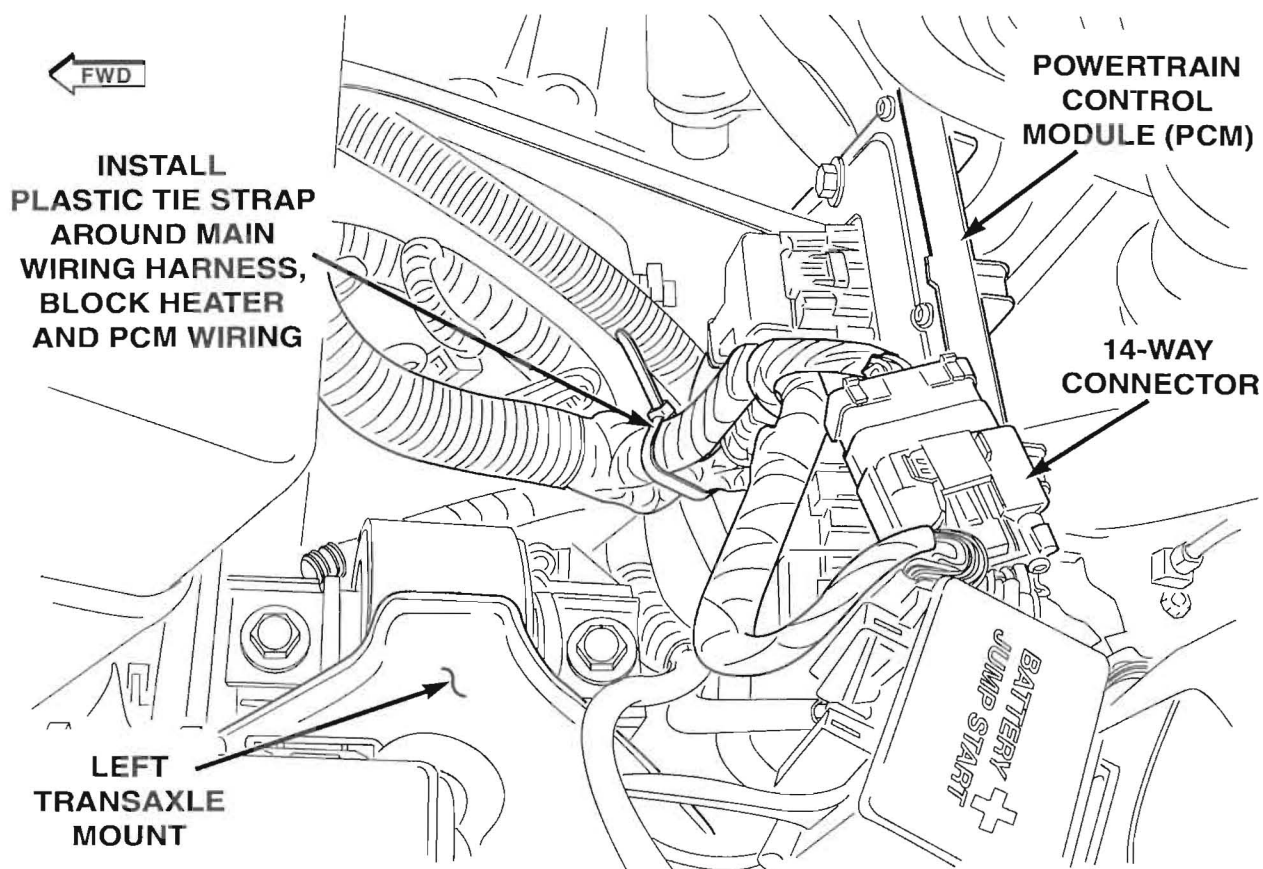

Figure 4
10. Reposition the main wiring harness and, if equipped, the engine block heater cord. Secure them using a tie strap as shown in Figure 4.